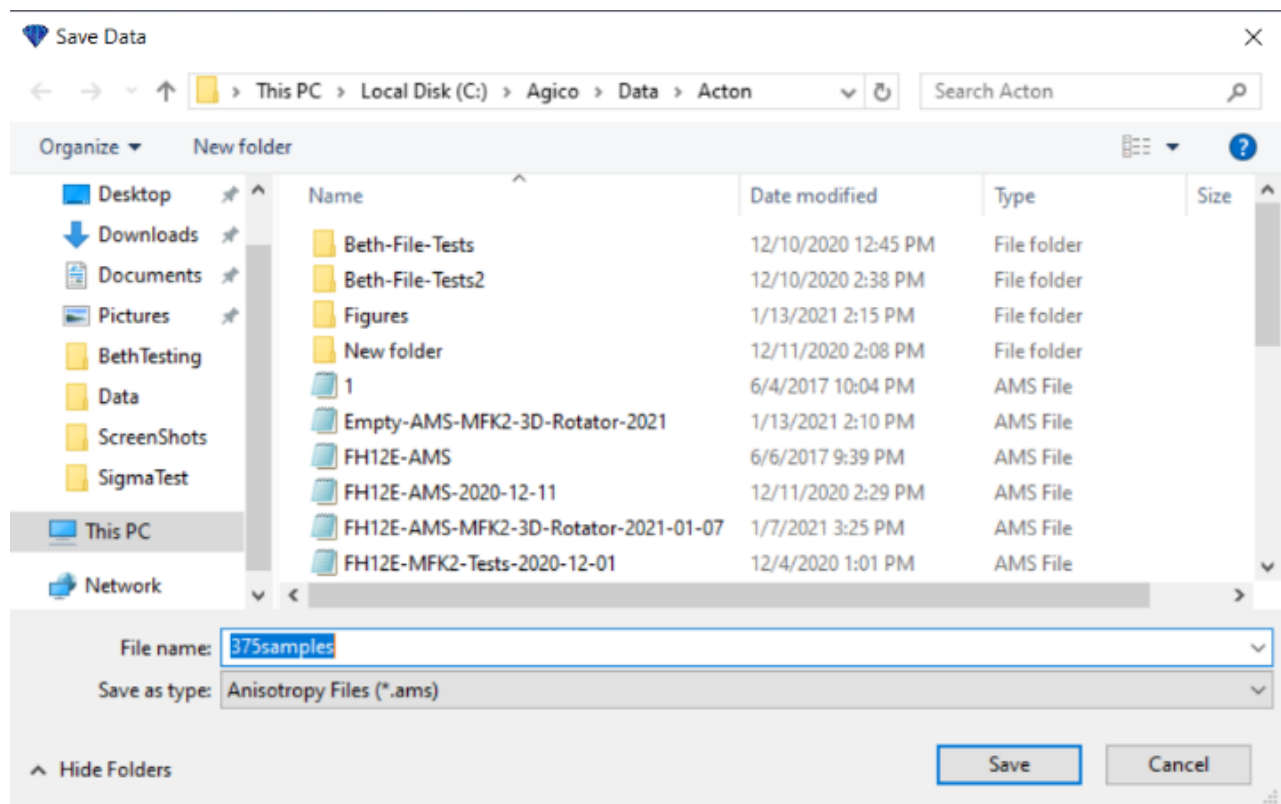

Figure 30: Safyr7 Save data prompt
- b. If no file has been opened prior to measurement, the user will be prompted to create a file or select a file to append the data to (Figure 30).